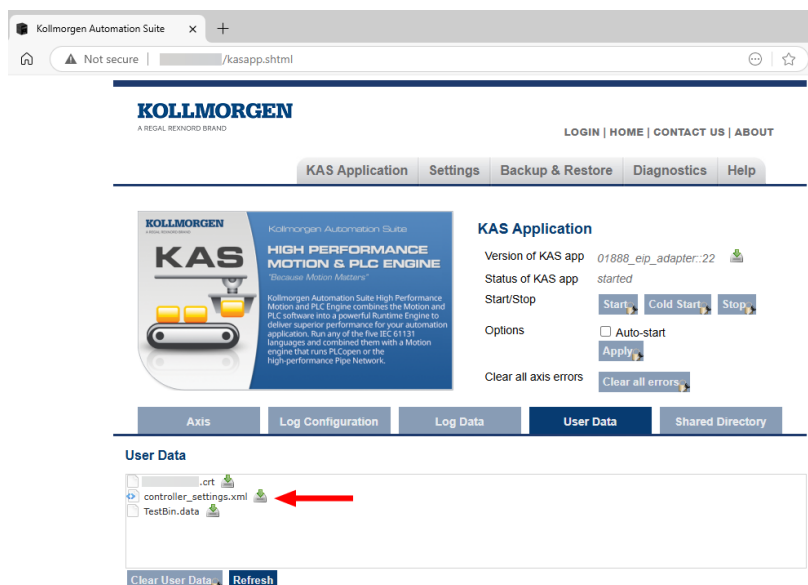

Figure 4-6: controller_settings.xml file
- c. Locate the **controller_settings.xml** file and click the Download (📄) icon next to it. (Figure 4-6)